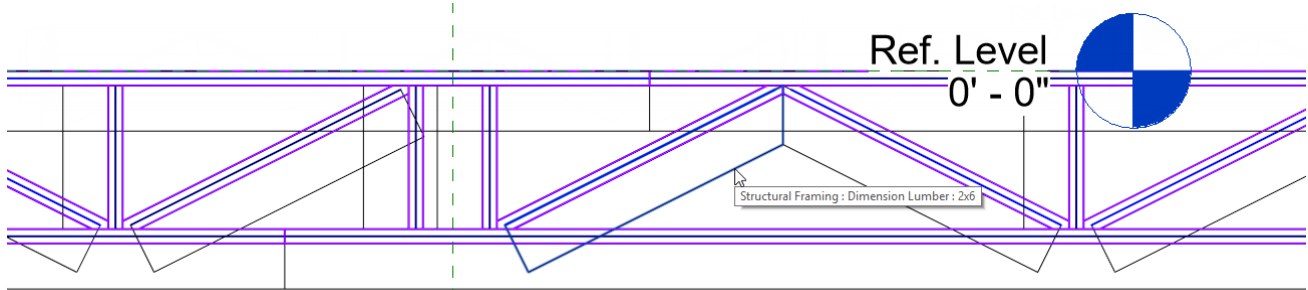

Figure 94
14. Position your windows so you can see the Revit window to observe the results (see Figure 94).